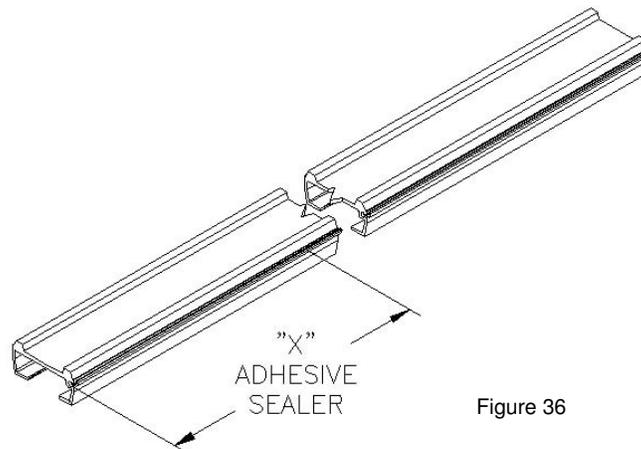

Figure 36
- d. Apply a 3mm diameter bead of SikaFlex 221 adhesive sealer into the exposed seal groove (Figure 36). The bead should be from the end of the seal to the end of the slat/plank. If using the polyethylene seal (blue) the bead should be 50mm long (Figure 37). Hold the caulking gun at a 60° angle to the floor slat/plank (Figure 38). Push the bead, do not pull.